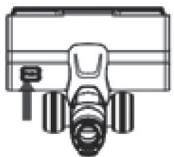

Figure 20
2. Flip the brush and turn the lock button on the fixed cover with a coin to open the lock. (Figure 20)